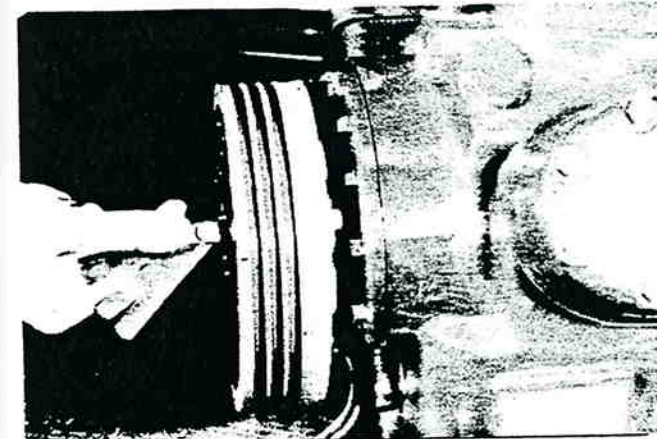

Figure 16-59: Checking Coil-to-Rotor Clearance
7. Check coil-to-rotor clearance with feeler gauge .020" (.508 mm) thick by .156" (.842 mm) wide (max.). Insert the feeler gauge through a slot in the rotor face (figure 16-59) so it extends beyond the rear of the rotor. Slowly rotate the rotor one full revolution. The feeler should not rub or bind against the coil shell. Make the test through several evenly spaced slots around the rotor circumference.